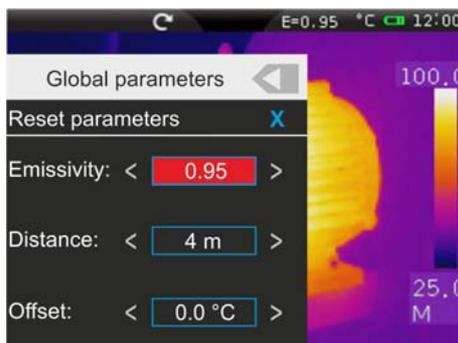

Fig. 36: Setting the global parameters
2. Set the values of global parameters “Emissivity”, “Distance” and “Offset” (see § 5.2.2.5) relevant to the measuring object by touching the relevant fields (see Fig. 36).